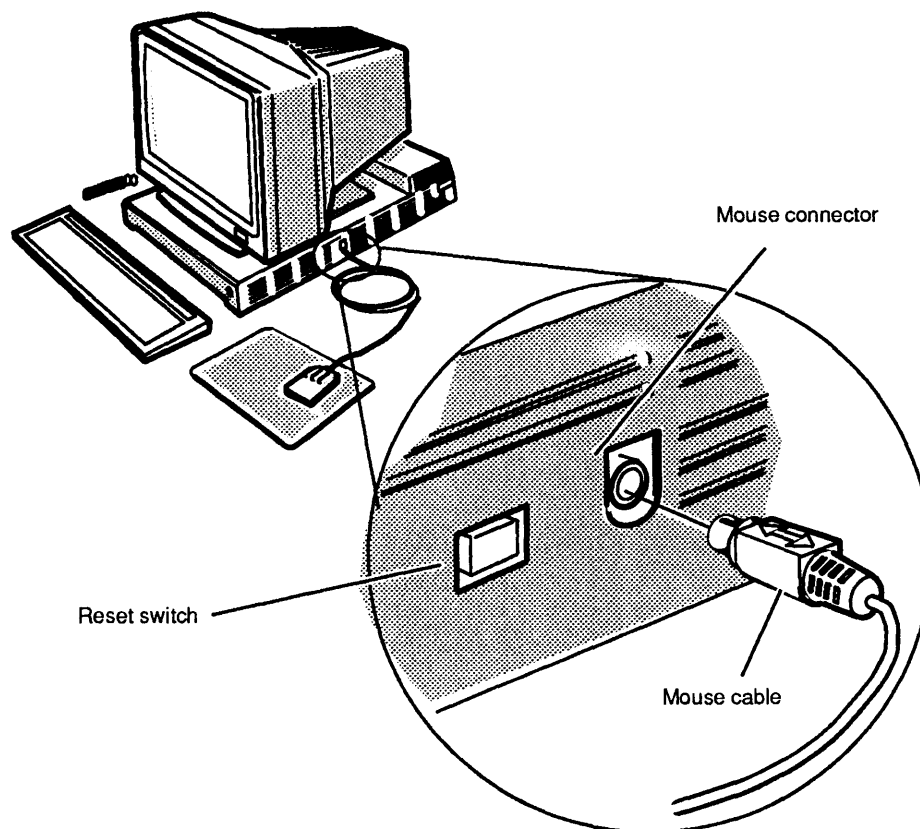

Figure 2-8 Plugging In or Unplugging the Mouse Cable
2. If you have a mouse extension cable, first connect the mouse cable and the extension cable; then, connect the extension cable into the computer unit mouse connector, as shown in Figure 2-8.
3. Plug the mouse cable into the mouse connector on the side of the computer unit. The connector is located to the right of the reset switch, as shown in Figure 2-8. There is a mouse icon printed on the chassis to help you identify the connector.